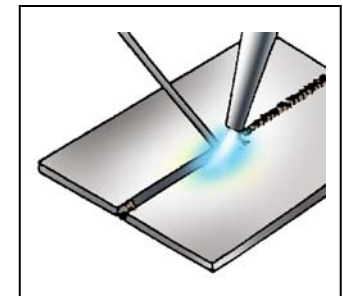

Figure 5
13. Carry the bead forward by moving the torch and adding filler with a smooth, uniform motion. Refer to Figure 5.